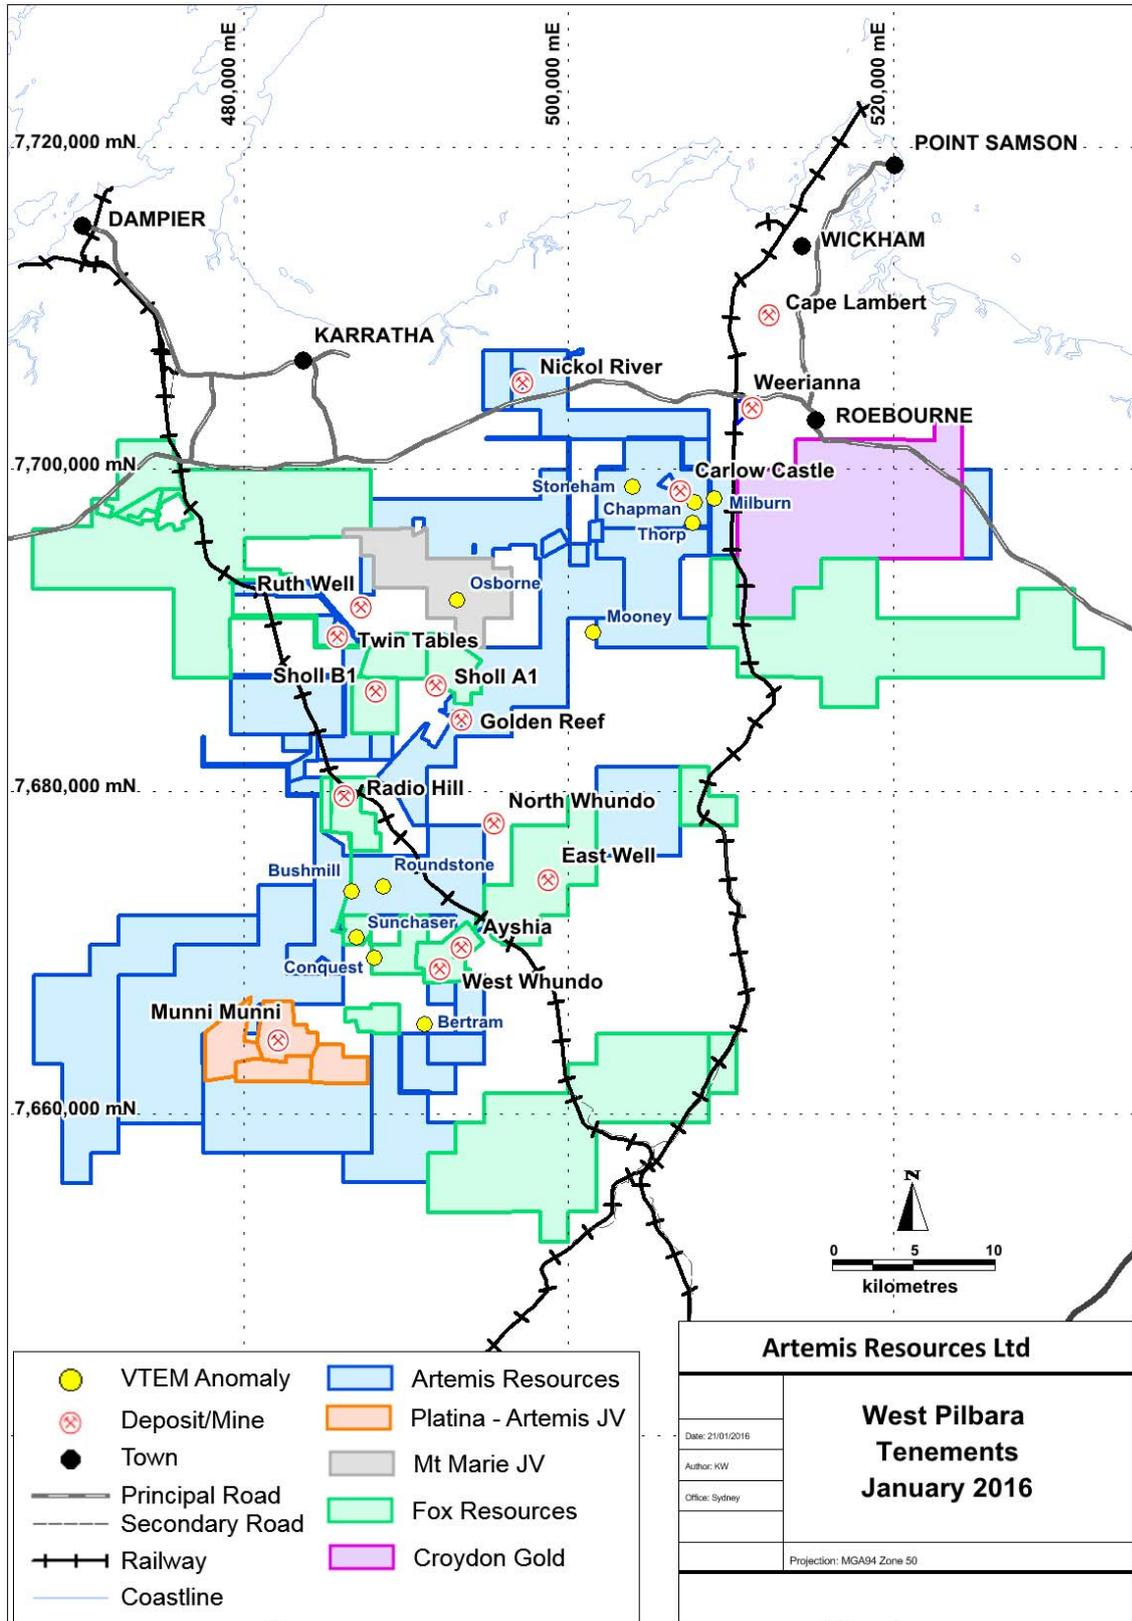

Figure 1. Artemis West Pilbara Project location map.
Artemis Resources Limited (ASX: ARV) is pleased to announce highly promising assay results from the first five Reverse Circulation (RC) drill holes at the Little Fortune and Goodluck prospects (Figure 1) at the Carlow Castle project in the West Pilbara region of WA.